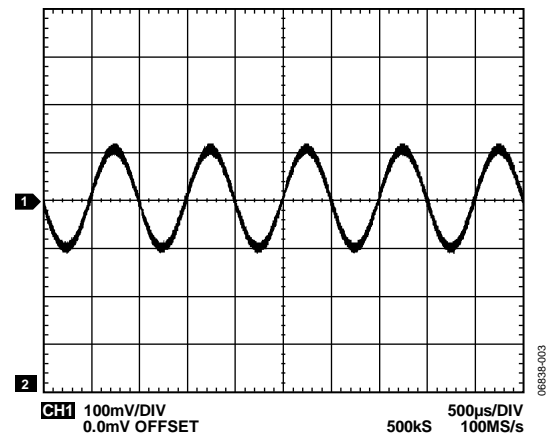

Figure 3. Output of the AD8251-EVALZ when $G = 2$
4. Set Switch 3 on the SW3 DIP switch to set the gain to Gain (G) = 2. The result must resemble Figure 3.